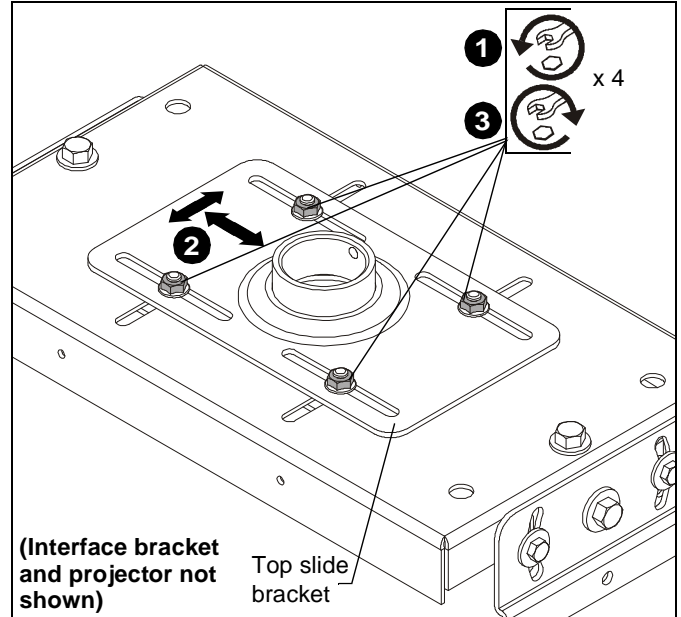

Figure 4
**Horizontal Adjustments** (See Figure 4)